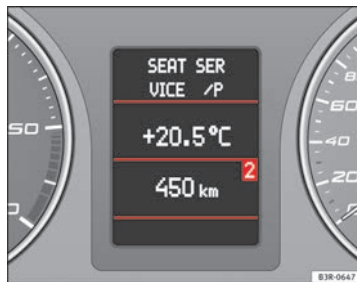

Fig. 66 Driver information system
- Press the **MODE** button (B) repeatedly to switch between modes, which are then displayed in the driver information system => Fig. 66.
- Scroll and press the left thumbwheel (A) to select a function from one of the menus.
- The speech control system* for the on-board phone system is enabled by pressing the talk button (C). Pressing the talk button again disables speed control*.
- Scroll the right thumbwheel (D) up/down to increase/decrease the volume. ■